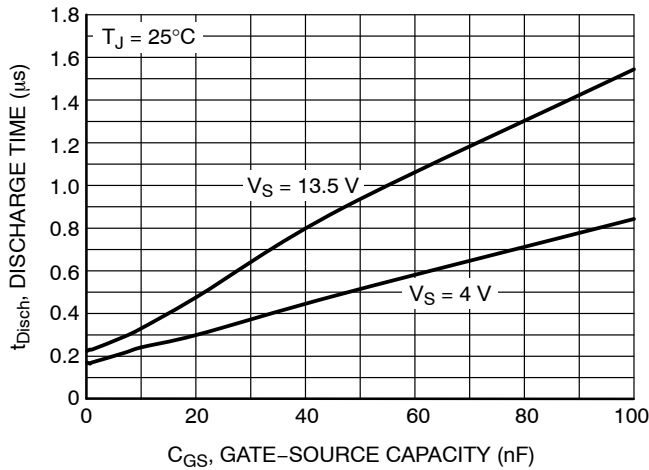

Figure 8. Discharge Time (from $V_{SD} = 0\text{ V}$ to $V_{GS} = 0\text{ V}$) vs. Gate-Source Capacitance
- t_{Disch} – discharge time for the given Gate–Source capacity of the external NMOS (see Figure 8)